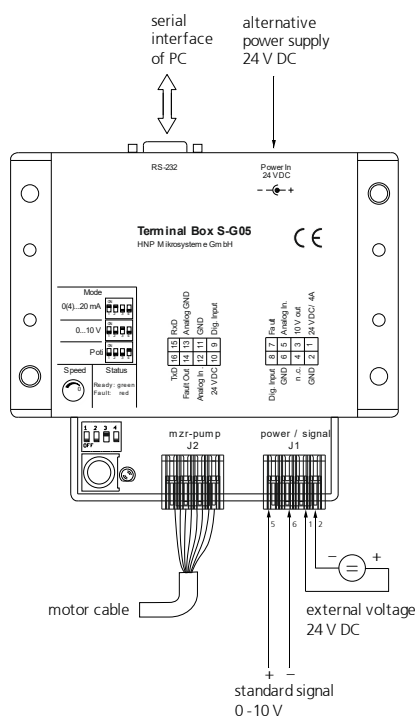

figure 15
4. Connect an external 0-10 V voltage supply to the terminal clamps »AnalogIn« and »GND« to the S-G05. (see figure 15)
4. Connect an external 0-10 V voltage supply to the terminal clamps »AnalogIn«, »10 V« and »GND« to the S-G05.(see figure 15)